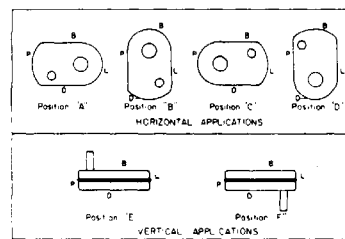

Fig. 2-Mounting Positions.
1. Determine the running position of the Screw Conveyor Drive. Running positions are shown in fig. 2. Note that the reducer is supplied with 7 plugs; 5 around the sides of the reducer for horizontal installations and 1 on each face for vertical installations. These plugs must be arranged relative to the running position as follows:
2. On sizes SCXT3, SCXT4, and SCXT5A use lifting tab to hoist the Screw Conveyor Drive into position. Slide shaft into screw and adapter over trough end studs. Only one set of adapter holes will fit over trough end studs. If the mounted position of the Screw Conveyor Drive varies by 15' from any of the four horizontal mounting positions shown in fig. 2, an incorrect set of holes has been selected for coupling adapter to reducer. This can be corrected by removing adapter screws and rotating reducer to its proper position. Reinstall and tighten adapter screws to torque specified in table 3 on page 5. Install lockwashers and tighten nuts on trough end studs. Attach drive shaft to screw.
† Refer to Fig. 2 on page 2 for mounting positions.